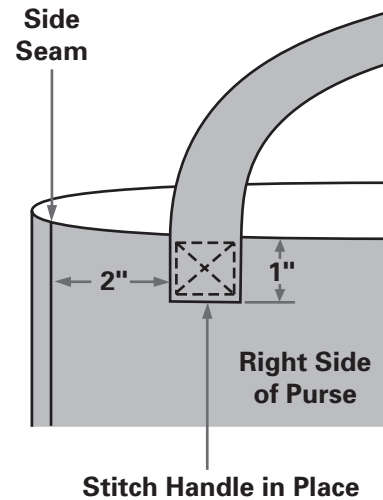

Fig. 6-7
- Pin both ends of one handle to the outside of the purse front, 2 inches (5 cm) from the side seams, with the handle ends 1 inch (2.5 cm) below the purse upper edge. Be careful not to twist the handle. Stitch as shown. Repeat to sew the remaining handle to the purse back. (Fig. 6-7)